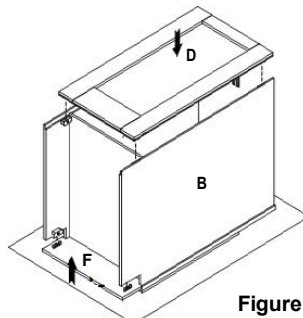

Figure 5
4. **Installing the Back Panel and Toe Kick (Figure 5):** Before you start this step, place the back panel (D) on a flat surface facing upward. Install the drawer rail holders (g) in the pre spotted area on the back panel (Figure 6). Secure them with 2 flat head screws (e) (Figure 6). Then put the back panel (D) at rear of side panels (B) (Figure 5). Align and lock each cam lock. Install the Toe Kick (F) by locking the cam lock at both ends (Figure 5).